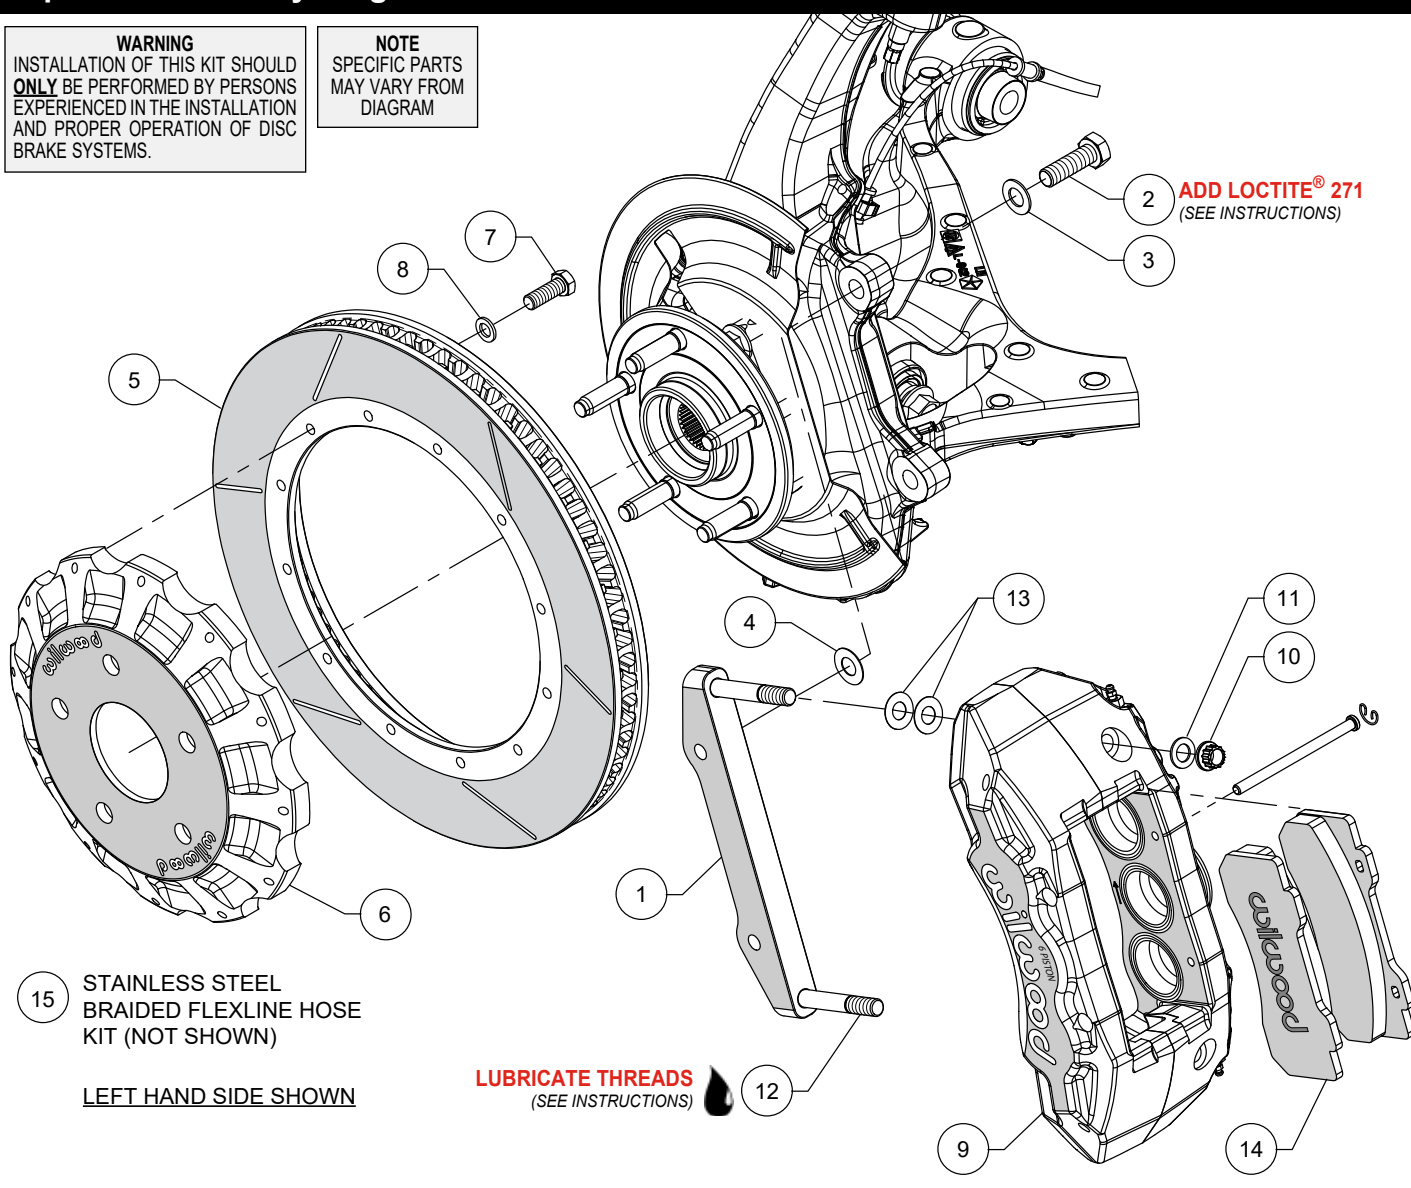

Figure 1. Typical Installation Configuration
NOTE: Numbers in parenthesis refer to the parts list and Figure 1 on the preceding pages.
- The caliper mount bracket (1) should initially be installed with clean, dry threads on the mounting bolts. Orient the bracket as shown in Figure 1 and Photo 1, and install using bolts (2) and washers (3). Initially place one .029 thick shim (4) on each bolt between the bracket and upright, Figure 1. Temporarily tighten the mounting bolts. **NOTE:** The bracket must fit squarely against the mount bosses on the upright. Inspect for interference from casting irregularities, machining ridges, burrs, etc. Later, after the caliper alignment has been checked, the mount bolts will be secured using red *Loctite*® 271.
- NOTE:** This kit contains distinct right and left hand calipers that must be mounted in a specific direction, as described below. Lubricate the caliper mounting studs (12) with lightweight oil. Initially place two .015" thick shims (13) on each stud as shown in Figure 1 and Photo 4. Mount the caliper (9) onto the bracket (1) using lock nuts (10) and washers (11), Figure 1. Ensure that the caliper is mounted so that the largest pistons are at the rotor exit end of the caliper, in relation to the direction of rotor rotation. Temporarily tighten the lock nuts and view the rotor through the top opening of the caliper. The rotor should be centered in the caliper, Photo 5. If not, adjust by adding or subtracting shims (4) between the bracket and the upright. Always use the same amount of shims on each of the two mounting bolts. Once the caliper alignment is correct, remove the bracket mounting bolts (2) one at a time, apply red *Loctite*® 271 to the threads, and torque to 105 ft-lb.
- Remove the two pad retaining pins from the caliper by carefully popping out the pin retaining clips and sliding out the pins. Insert the brake pads (14) into the caliper, with the friction material facing the rotor, as shown in Photo 6 and secure the brake pads in place with the pad retaining pins and clips, Figure 1. Check that the top of the brake pad is flush with the outside diameter of the rotor, Photo 7. If not, adjust by adding or subtracting shims (13) between the caliper and the bracket. After the caliper pad height is set, torque the caliper lock nuts (10) to 65 ft-lb.
- Attach brake line to caliper. **NOTE:** OEM rubber brake hoses generally cannot be adapted to Wilwood calipers. Install Wilwood's braided stainless steel flexline hose kit (6) included with this kit. See below for more info on flexline kits.